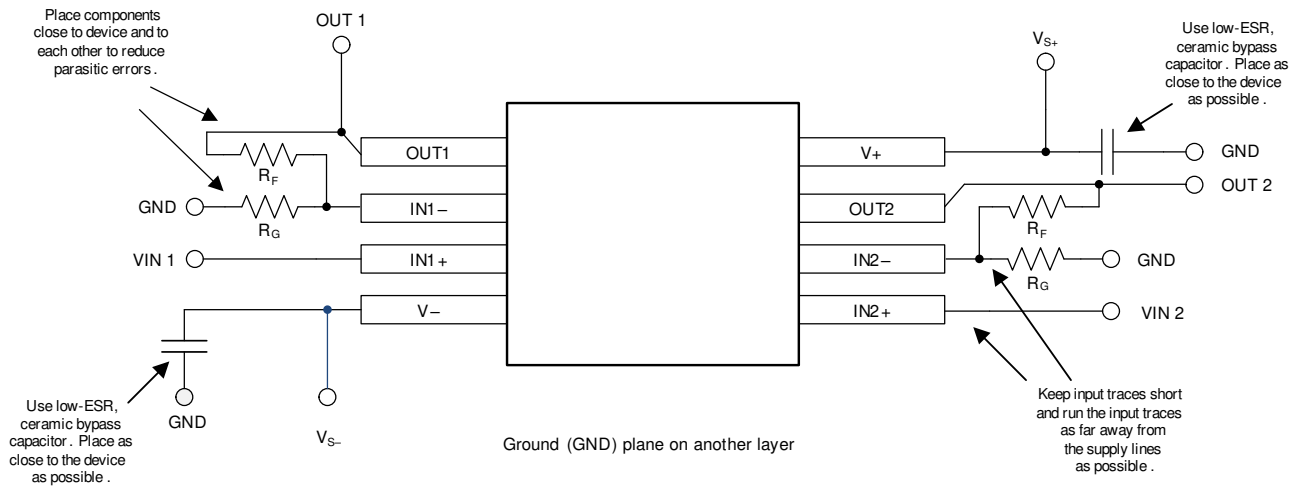

Figure 45. Layout Example
- Place the external components as close to the device as possible. As illustrated in Figure 45, keeping RF and RG close to the inverting input minimizes parasitic capacitance on the inverting input.